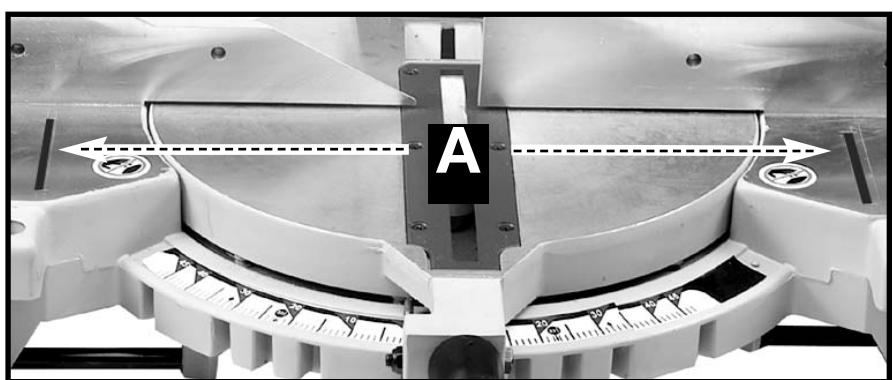

Fig. 8
⚠ WARNING: THE AREA INSIDE THE TWO RED LINES (A) FIG. 8 ON THE TABLE IS DESIGNATED AS A HAZARD ZONE. NEVER PLACE YOUR HANDS INSIDE THIS AREA WHILE THE TOOL IS BEING OPERATED